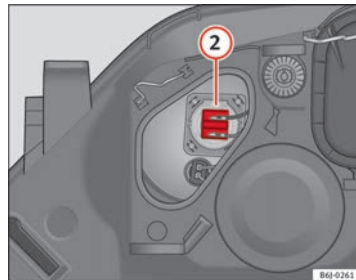

Fig. 160 Main beam headlights
- Remove connector ⇒ fig. 160 ② by pulling outward.